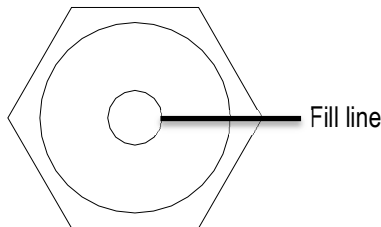

Figure 8a
4. Start the unit and run for several minutes. Shut down the air compressor and recheck the oil level. If necessary, add more oil. (Figure 8a)